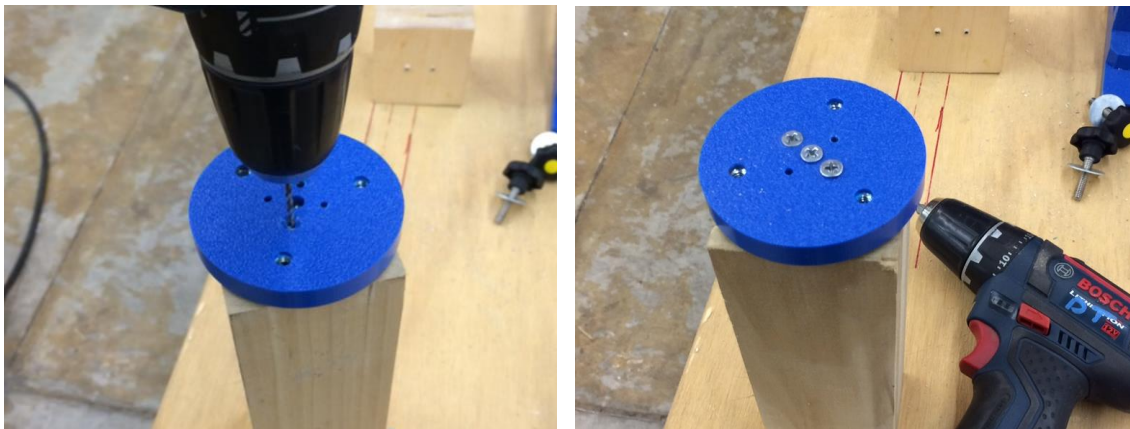

Figure 11
- 1) Install 4 wood screws through the 4 1/8" holes surrounding the center square nut on each of the two mounting plates. NOTE: This is made easier by temporarily fastening the mounting plate through the center hole with a wood screw to drill the surrounding pilot holes (Figure 11)